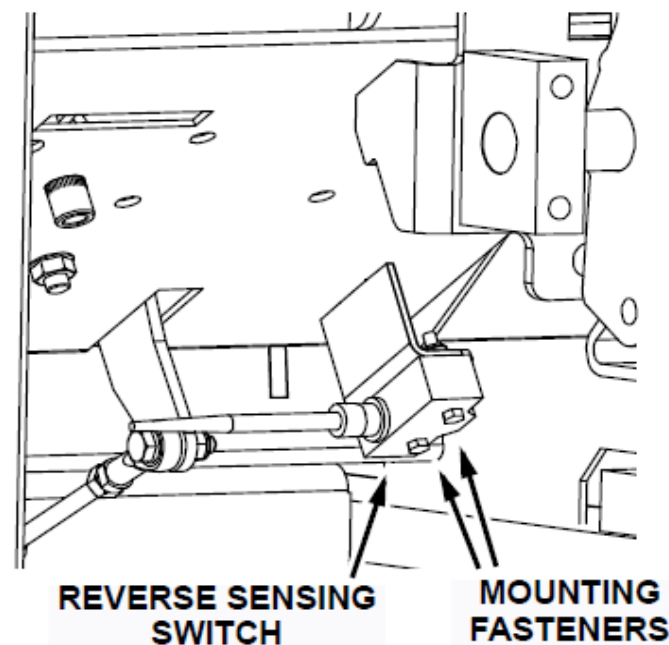

Fig. 1: Reverse Sensing Switch Fasteners
1. Slightly loosen the neutral switch mounting fasteners so that the switch can be repositioned by hand. (See Fig. 1)